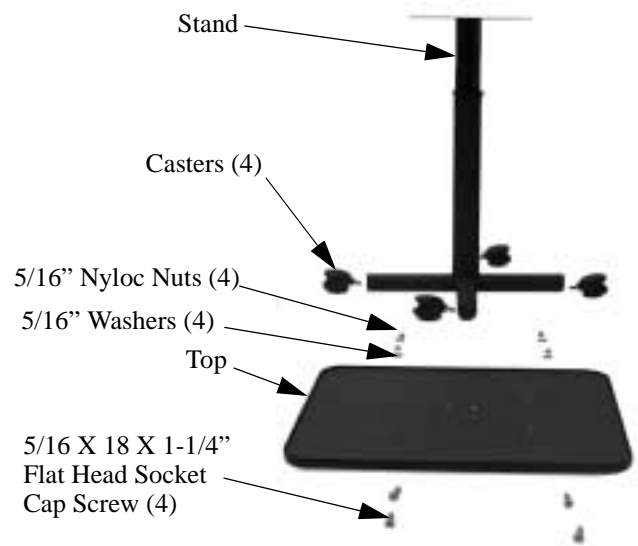

Figure 1.
1. Set the parts of the presentation cart on a clean flat surface as shown in Figure 1.